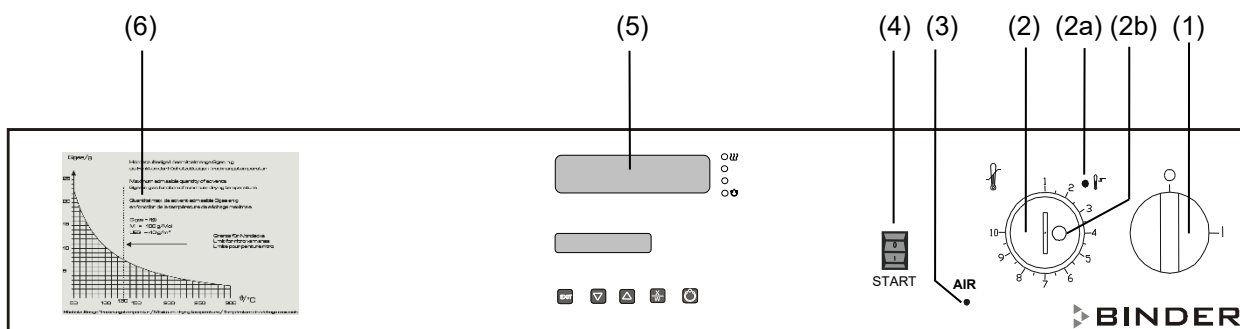

Figure 5: Control panel of FDL 115 standard chamber
A flow monitor in the upper part of the device (pressure differential switch) monitors the stream of exhaust air. In the event of failure, the monitoring system turns the heater off immediately and shows this status with a visual signal: red indicator light “AIR” (3) (see Figure 5).